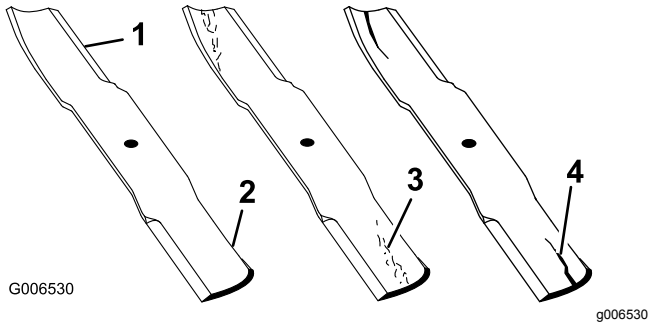

Figure 98
1. Inspect the cutting edges (Figure 98).
4. If you notice any cracks, wear, or a slot forming in this area, immediately install a new blade (Figure 98).